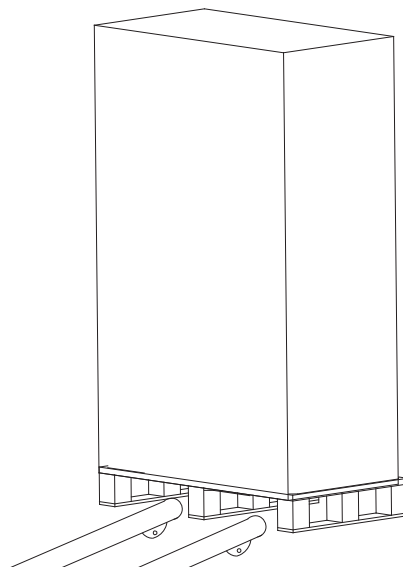

Fig.2-3 Transport to the designated site
2. Transport the equipment to the designated site by forklift, as shown in Fig.2-3.